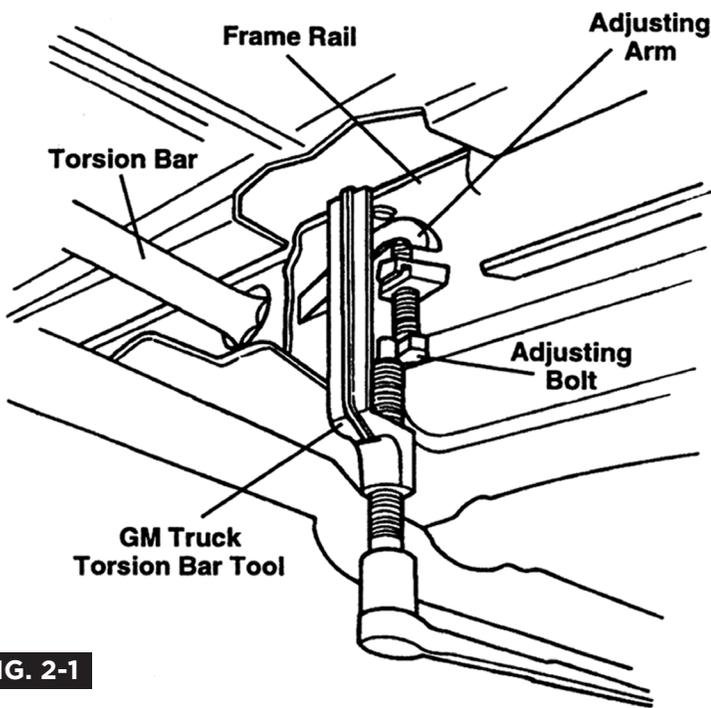

FIG. 2-1
3. Remove OE shock studs by supporting the shock by it's cross-pin and striking the stud out from the cross-pin. **(FIG 2-1)**